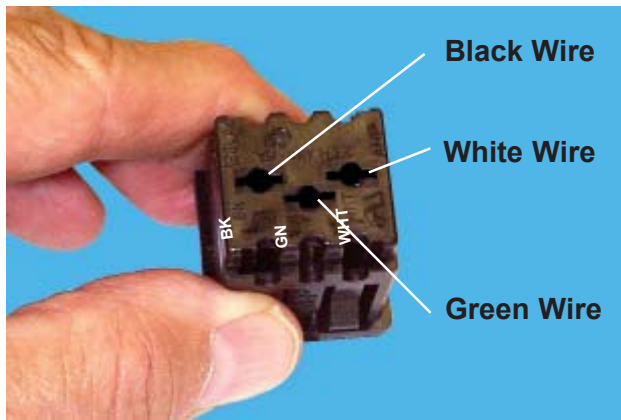

Figure 40. Auxiliary Outlet - Rear
11. Connect the three wires in the auxiliary outlet cable to the rear of the auxiliary outlet (Figures 40 and 41). **Note:** The labels **BK**, **GN** and **WHT** are molded onto the rear of the outlet. Look at the wire colors and do not be misled by the 1-in. long black sleeves over the ends of the black and white wires.